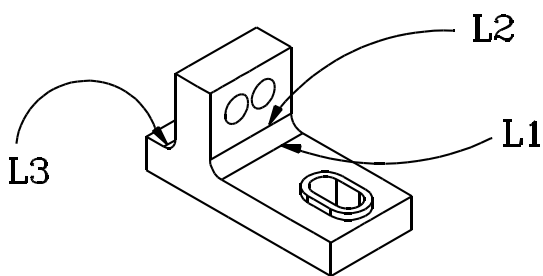
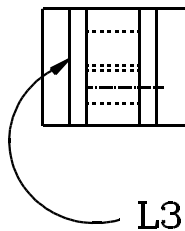

Figure 18
Figure 19
74. Click on line L1 in the isometric view (Figure 18), and line L3 in the top view (Figure 19).